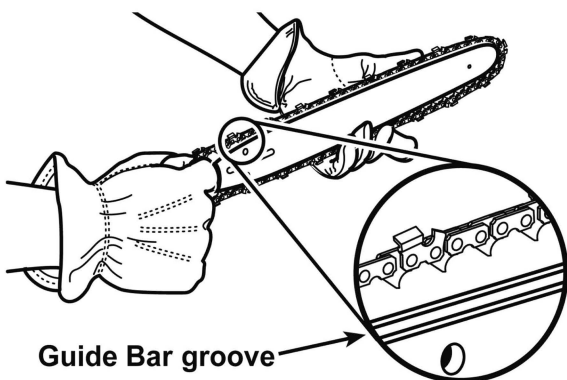

Figure 2: Saw Chain Orientation
6. Replace the Drive Cover, making sure the Chain Tension Pin on the Cover is inserted into the lower hole on the Guide Bar as shown in Figure 2. Replace the Drive Cover Nuts and tighten so that the Cover is snug, but not tight. Tension the Saw Chain following the steps in Checking Saw Chain Tension and Adjusting Saw Chain Tension on page 12.